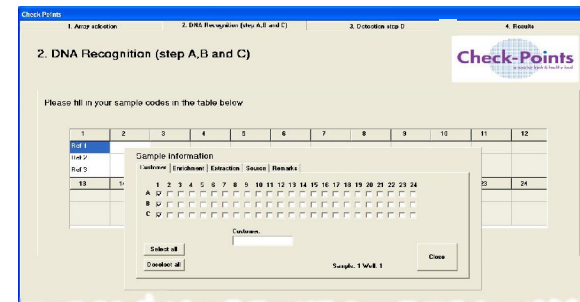

Figure 5: Pop-up for additional sample details.
- When the sample references are filled in, additional remarks can be added per sample (optional) by double-clicking on one of the sample reference fields. A pop-up will appear (see fig 5) allowing remarks to be added to individual samples or to all samples, by marking the box of the sample in question.